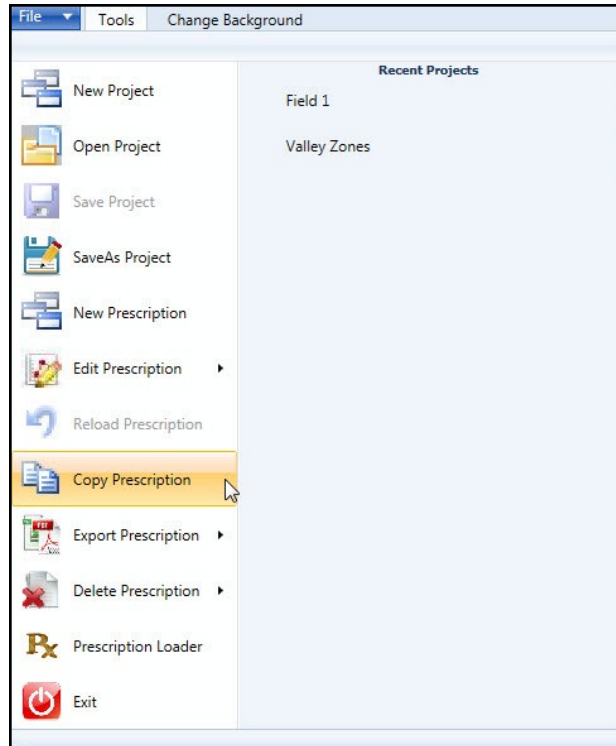

Figure 36-1 Select Copy Prescription
1. Select **Copy Prescription** in the VRI drop-down menu. See Figure 36-1.